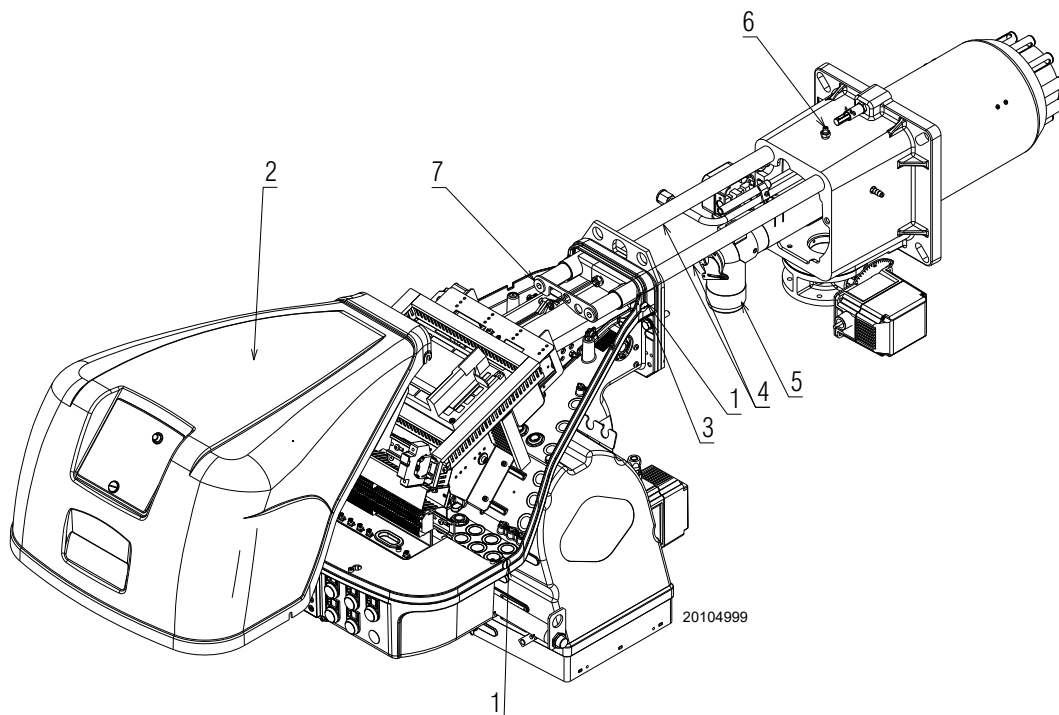

Fig. 35
Make sure that the gas outlet holes for the start-up, on the combustion head distributor, are free of dirt or rust deposits. If in doubt, disassemble the elbow (Fig. 35 at page 37).
- Loosen the 4 screws 1)(Fig. 35) and remove the hood 2);